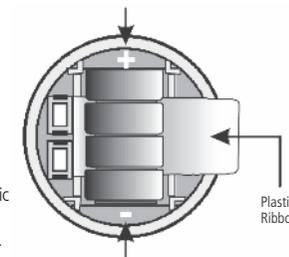

Figure 12: Battery compartment
- 2 Remove old batteries by pulling plastic ribbon. Replace with fresh ones. Note polarity as shown in figure 12.